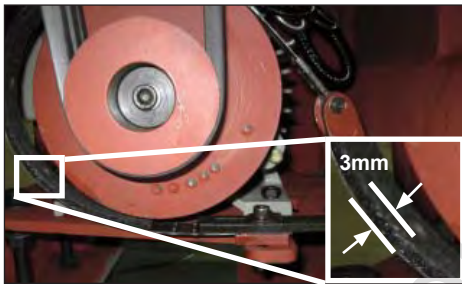

Figure 82. Minimum brake band lining thickness.
4. Measure the remaining brake band lining at the thinnest point, which is usually at the 8 o'clock position, as shown in Figure 82.